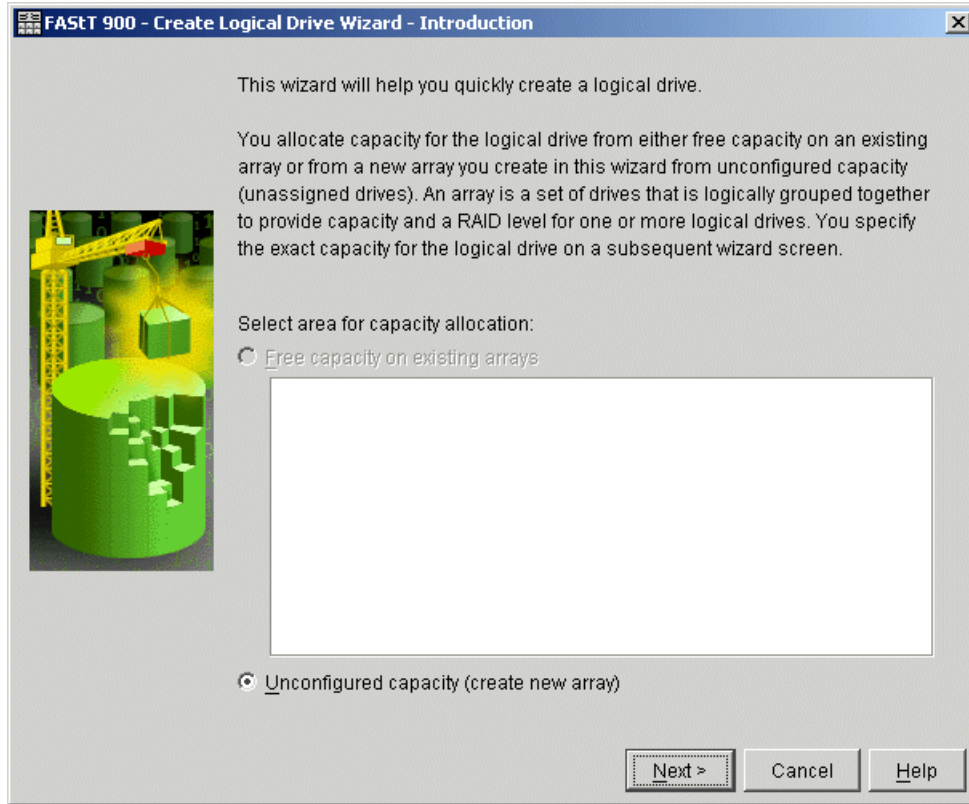

Figure 5-26 Create Logical Drive Wizard
2. The Create Logical Drive Wizard window displays (see Figure 5-26).